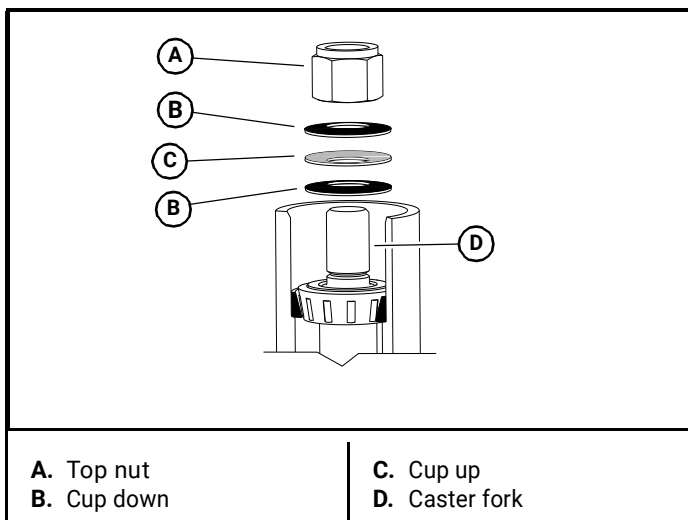

Figure 4-25
**IMPORTANT:** Stack the cup washers as shown in Figure 4-25.
12. Torque the top nut to 40 ft-lbs (55 N•m), then back off ¼ turn. Figure 4-25